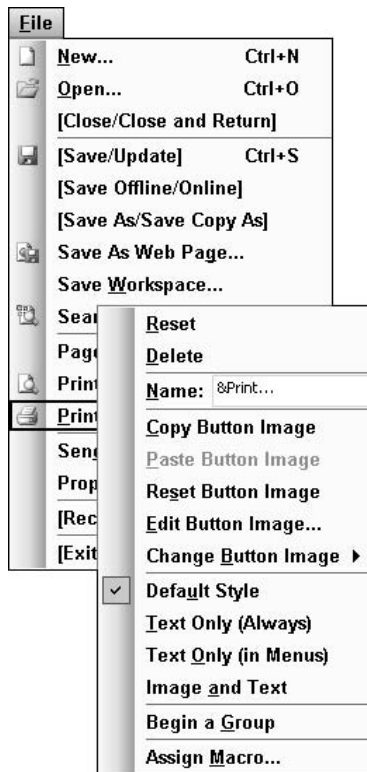

Figure 23-31: You can use this menu to add a button image next to a menu command.
3. Right-click the command that you want to change; the menu shown in Figure 23-31 appears.